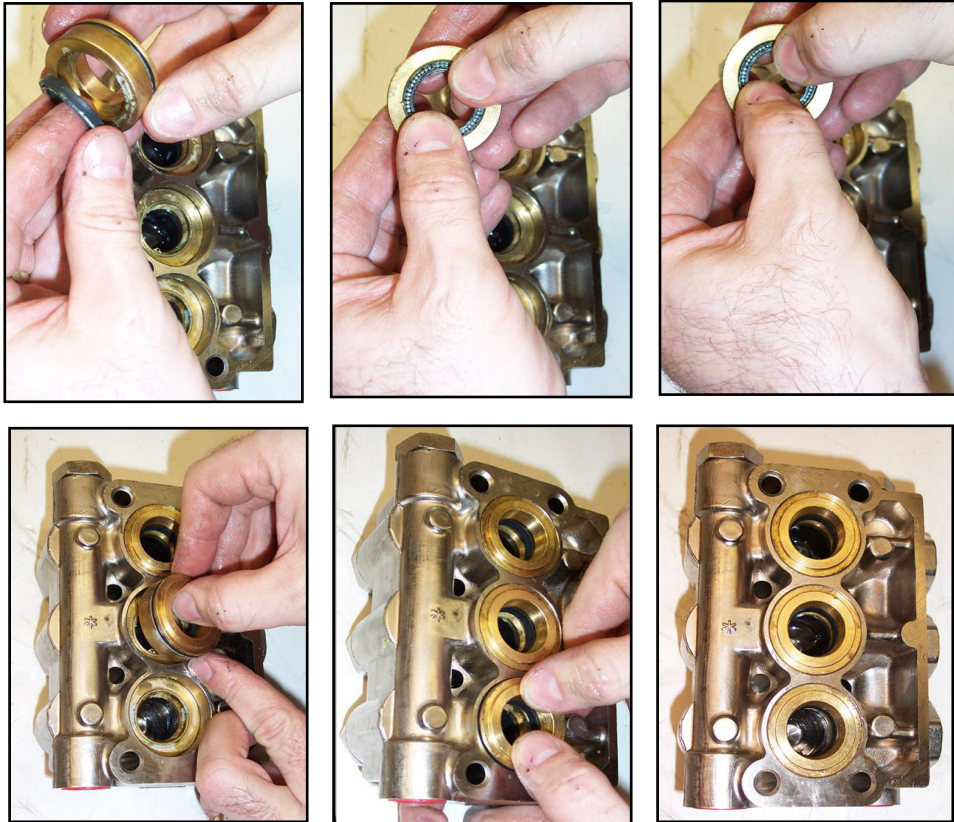

Figure 15. Press Low Pressure Seal Assembly into Cavity
3. Press the low pressure seal assembly into the cavity (see Figure 15).